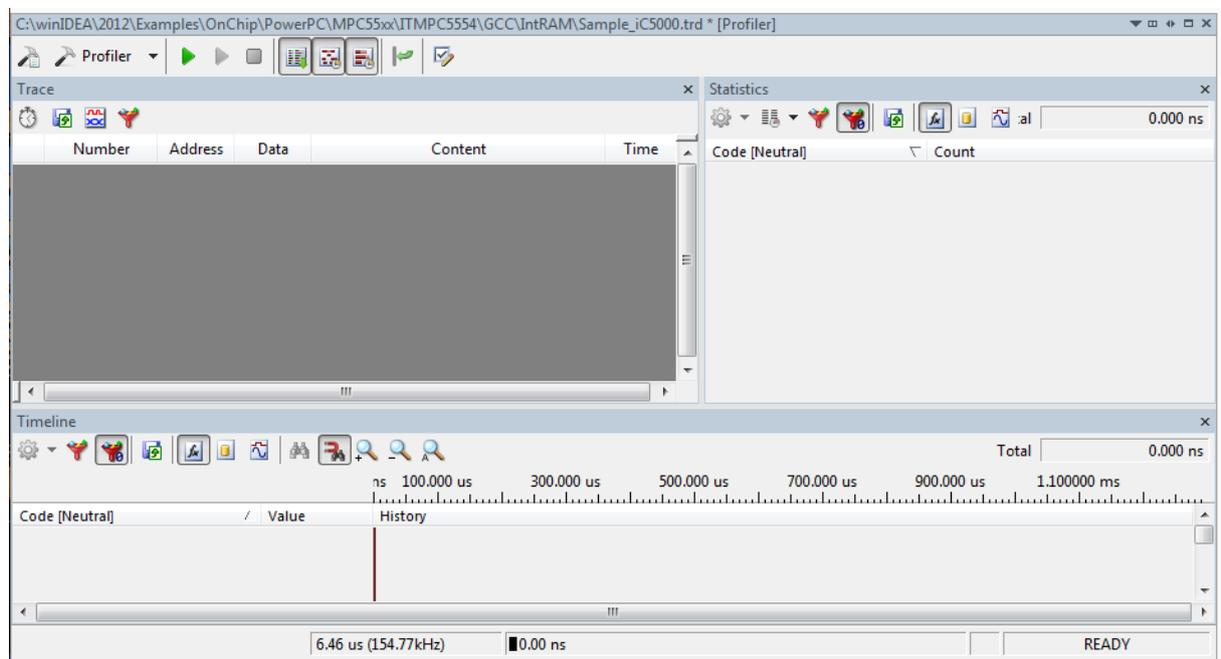

Figure 4: Trace Results over JTAG (without Slow Run)
- Figure 4: JTAGkeinTRPProf.jpg